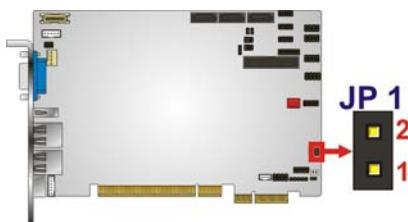

Figure 4-8: PCIe Status Select Jumper Pinout Locations
**Jumper Location:** See Figure 4-8